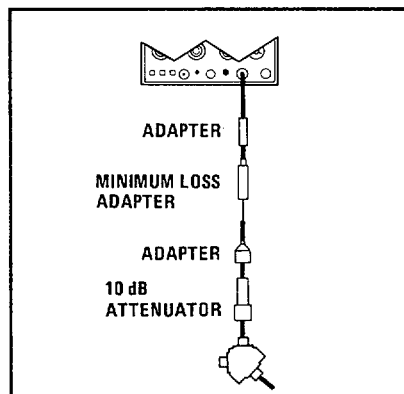

Figure 5-4. Slope Adjustment Test Setup
2. Connect equipment as shown in Figure 5-4.